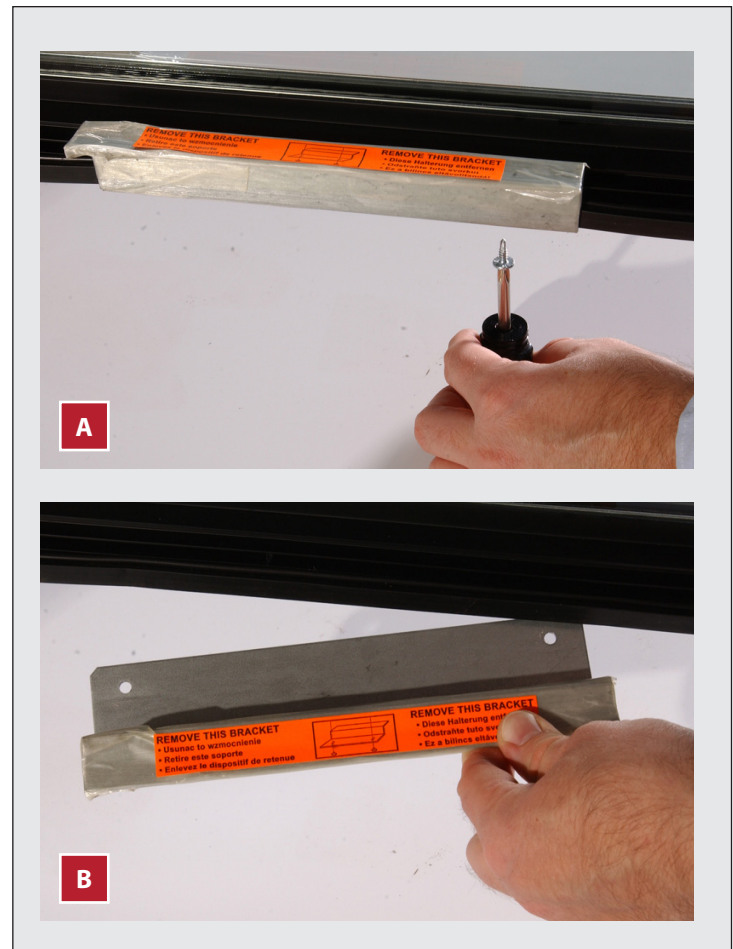

Fig. 2. Remove the glass swing door shipping bracket, if so equipped. DO NOT discard.
- NOTICE > DO NOT** remove the shipping bracket (fig. 2) until the appliance is installed in its final location. **Do not discard;** use the brackets when next moving the appliance.